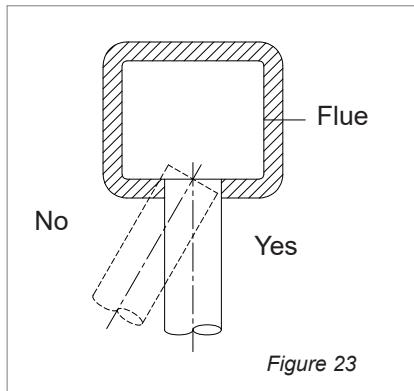

Figure 23
- The waste gas pipe must be perpendicular to the opposite wall of the flue duct (see Figure 23).